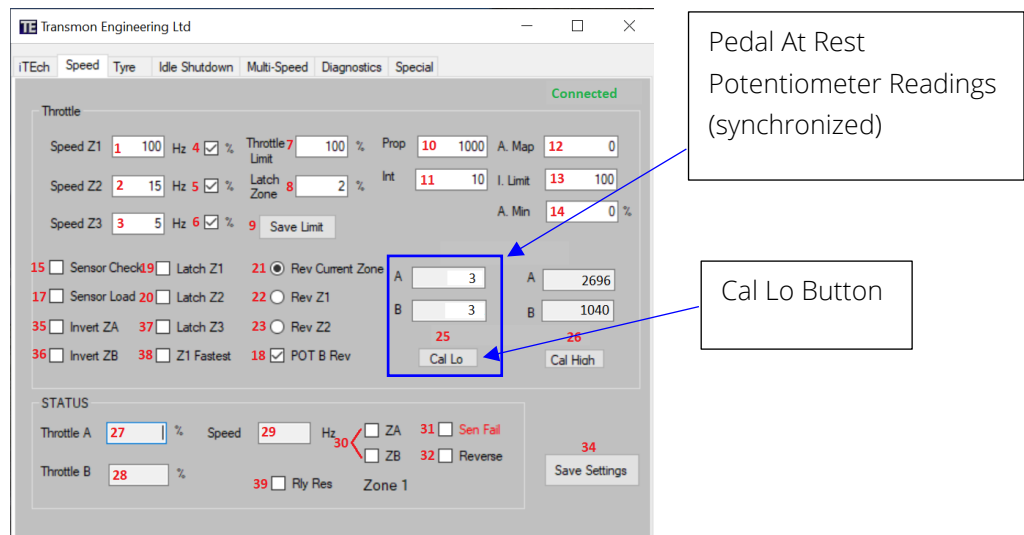

Figure 10: Pedal At Rest Low Calibration Readings and Button
- With the **accelerometer pedal at rest (not depressed)**, click **Cal Lo** button (see Figure 10)